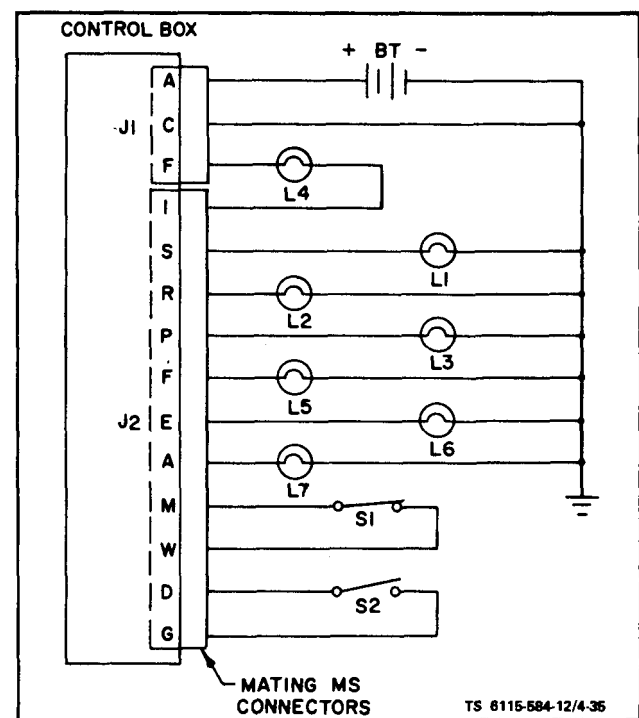

Figure 4-35. Control Cubicle Test Set-Up
f. Bench Test. Connect the control cubicle as shown in figure 4-35 and proceed as follows.
(1) Position switches as follows: